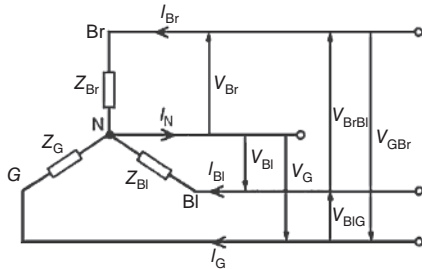

Figure 23.3
- (i) A **star-connected load** is shown in Fig. 23.3, where the three line conductors are each connected to a load and the outlets from the loads
- (iv) From Fig. 23.3 it can be seen that the phase currents (generally denoted by I_p) are equal to their respective line currents I_{Br} , I_{Bl} and I_G , i.e. for a star connection: